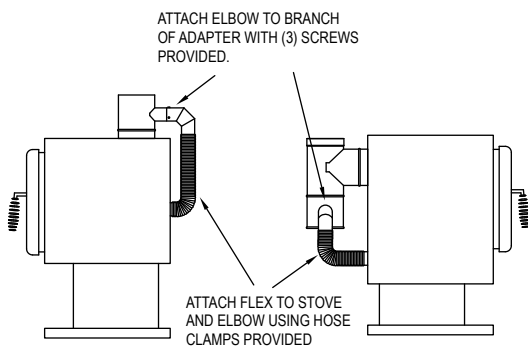
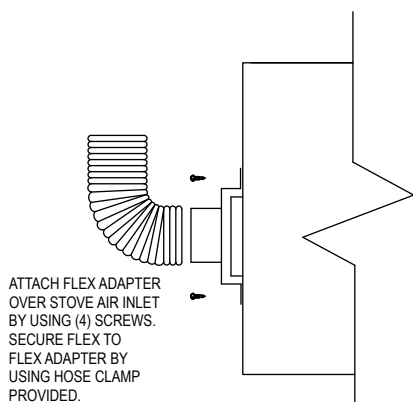

Figure 8
Figure 9
Step 4. Attach Elbow Section to Adapter. The Elbow Section to connected to the branch of the Adapter to facilitate the airflow to the appliance (**Fig 8**). Slide the Elbow Section onto the Adapter and secure with (3) 3/8" screws provided. Connect one end of the flex to the Elbow Section by sliding a supplied hose clamp onto the Elbow section, and then slide the flex over the end of the Elbow Section. Secure the flex in place by tightening the hose clamp.
Step 5. Connect to air-inlet of the stove. Connect the other end of the flex to the air-inlet of the stove. If the flex slides over the stove inlet, then attach using a hose clamp provided (**Fig 8**). If the stove's air-inlet is of a different size, then a Flex Adapter is needed (**Fig 9**). The Flex Adapter will attach directly to the stove over the top of the air inlet, using (4) 3/8" screws provided. The flex will then slide over the Flex Adapter and is secured with a hose clamp. A Reducer Flex Adapter is also available for stoves with a 2" diameter air inlet. One end of the Reducer Flex Adapter slides into the flex and is secured with a hose clamp, the other end slides into the stove inlet and is secured with (3) 3/8" screws. As an option, a non-hardening sealant can be used to seal the connection between the stove and the Flex Adapter but choose a sealant that can handle the temperature of the stove.